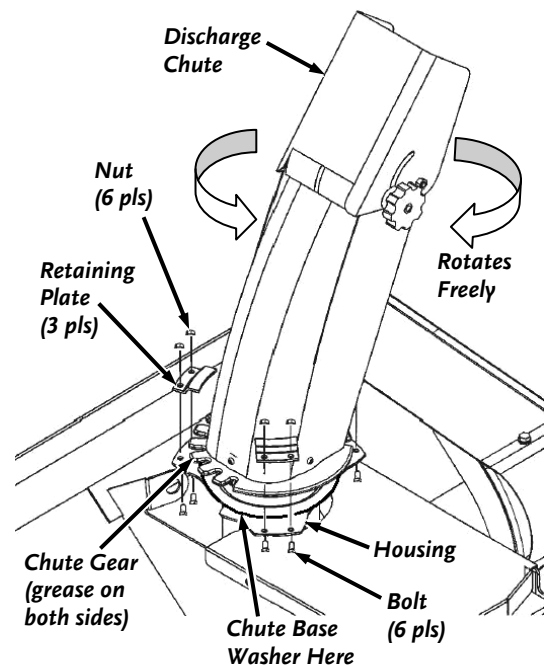

Figure 3
1. Position the Chute Base Washer around the Discharge Hole on the Frame (**Figure 3**).
4. Position the three Retaining Plates as shown (**Figure 3**) and secure with 1/4-20 x 1/2" Bolts and 1/4-20 Flange Nuts.